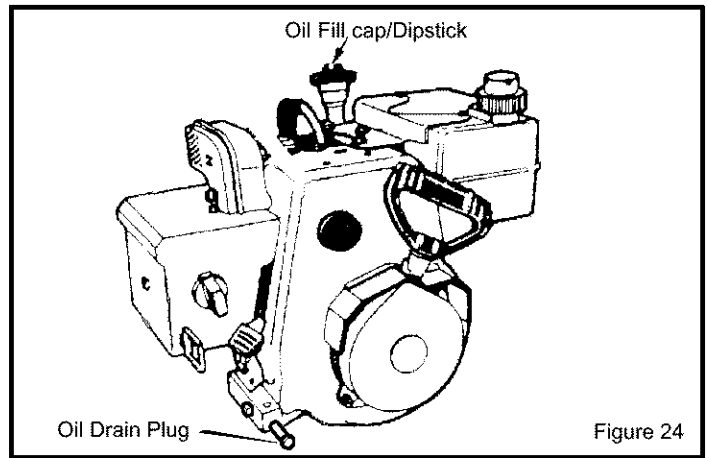

Figure 24
**To Drain Oil** – Position snow blower so that the oil drain plug is lowest point on engine. Remove oil drain plug and oil fill cap and drain oil into a suitable container (Figure 24).